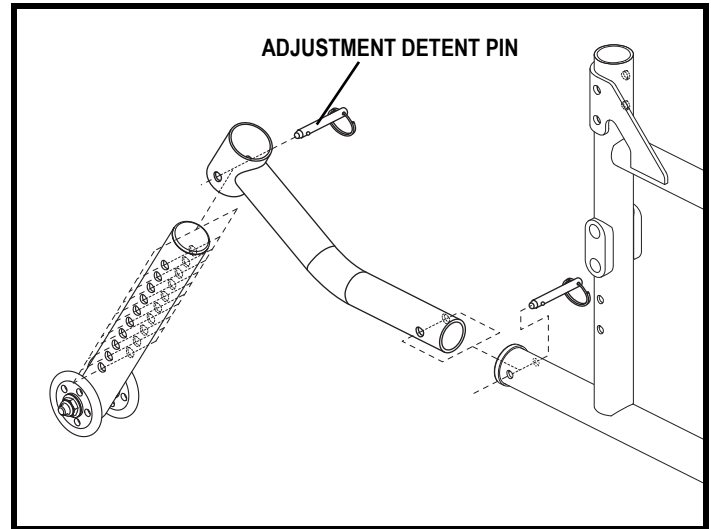

Figure 37. Anti-tip Wheel Adjustment
1. Remove the detent pin from the anti-tip wheel. See **figure 37**.